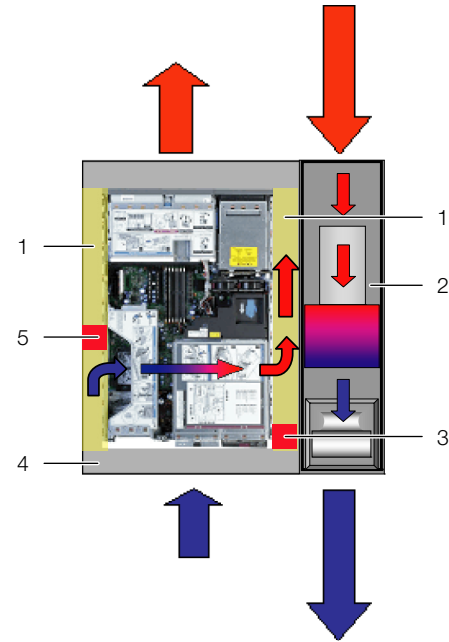

Fig. 11: Placement of foam strips for devices with sideways air throughput (top view)
- If several devices which require sideways air throughput are included, cut out several pieces of the foam strip, as is appropriate, so that, ultimately, there is a cut-out in the foam to the left or right at the height of each such device in the server rack. Ensure that there are no gaps on the hot air side of the devices (fig. 11, item 3).
- Attach the foam strips to the cold air side of the devices set back towards the rear (fig. 11, item 5), making sure that all fans built into the devices can draw air and that none of them are blocked.
The foam strips can be attached between the front and rear uprights of the server rack along the entire depth of the devices with sideways air throughput (fig. 11, item 1).